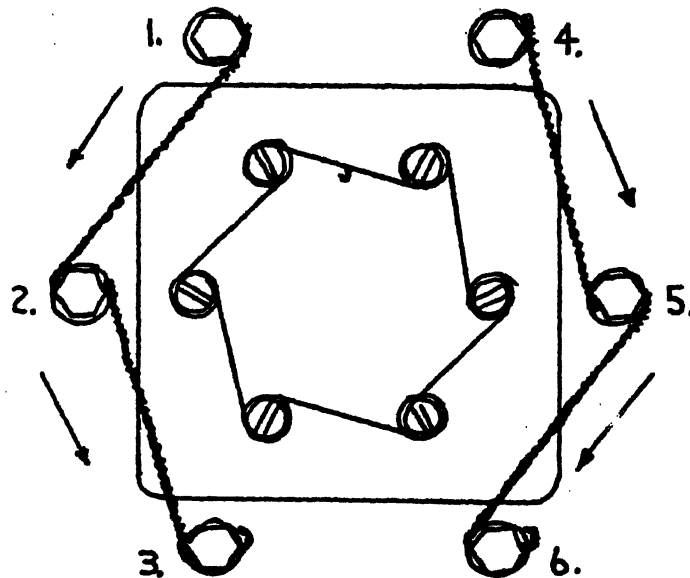

Figure 25
* Figure 25 on page 26 is an illustration of the completed project (Torqueing and Safetying).
* Refer to figure 25, it shows completion of double-twist safety wire procedures.